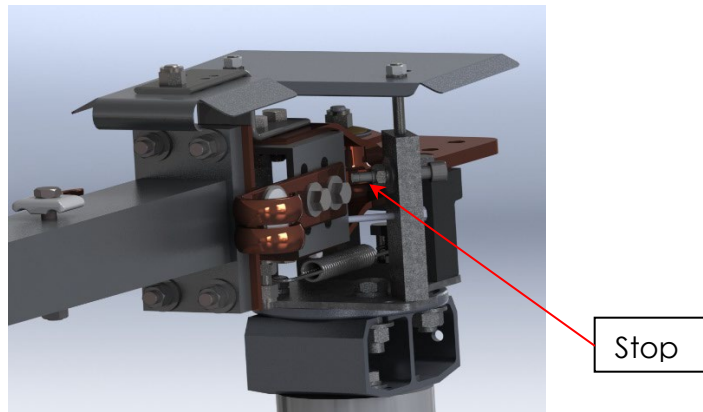

Figure 12: Live Parts Closed Position Stop
- v) Shorten the adjustable radius arm approximately 1/4-inch. Allow the pipe clevis to reposition itself the same 1/4 inch. Refer to Figure 12.